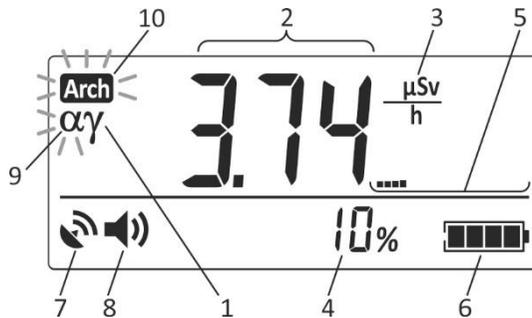

Figure 2.11 – LCD of the dosimeter
A blinking **Arch** symbol is indicative of critical filling of the nonvolatile memory and, therefore, of the possibility of information loss ((10) Figure 2.11). **Arch** symbol is briefly highlighted at a 4 second interval in all modes and submodes of the dosimeter except for the "Measurements results viewing stored in the nonvolatile memory" mode and "Measurement result saving in the nonvolatile memory" submode, if the circular buffer intended for DE accumulation history autosaving can provide for less than 10 DE records, or if information has already been lost.
2.3.6.5.1.2 When photon ionizing radiation DER is measured using ABG probe, alpha radiation presence is also monitored. When alpha radiation is registered (when the pulse count rate from alpha radiation detector exceeds the value of 1 cps), the dosimeter's LCD begins to display a blinking "α" symbol ((9) Fig. 2.11) and generates typical sound and light alarms. Open the alpha detector window for correct registration of alpha radiation (Fig. 2.21).
2.3.6.5.2.3 In this mode the dosimeter's LCD displays the following (Figure 2.11):
- “ γ ” symbol (1) – radiation type being measured;
- DER measurement result (2);
- DER measurement result dimension (3);
- estimated limits of the expected relative statistical deviations (4) of the measurement result (2) given 0.95 confidence probability – hereinafter referred to as the specified limits of statistical deviations.
- indicator of instantaneous DER value (5).
- battery status symbol (6);
- navigation receiver status symbol (7);
- status symbol of registered gamma quanta, alpha or beta particles signaling (8);
- symbol of alpha radiation presence (9) (when DER is measured using ABG probe);
- sign (10) of critical filling of the nonvolatile memory of the dosimeter, where DE accumulation history is stored (2.3.4 of this operating manual).